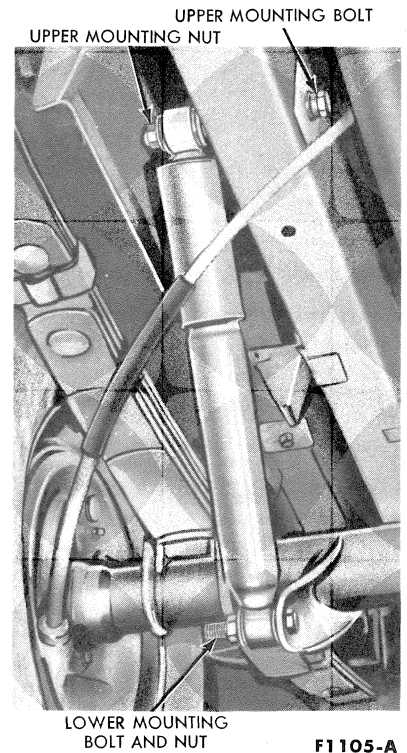

FIG. 4—Rear Shock Absorber Installed
2. Remove the shock absorber lower mounting nut and bolt, and swing the lower end free of the mounting bracket on the axle housing (Fig. 4).